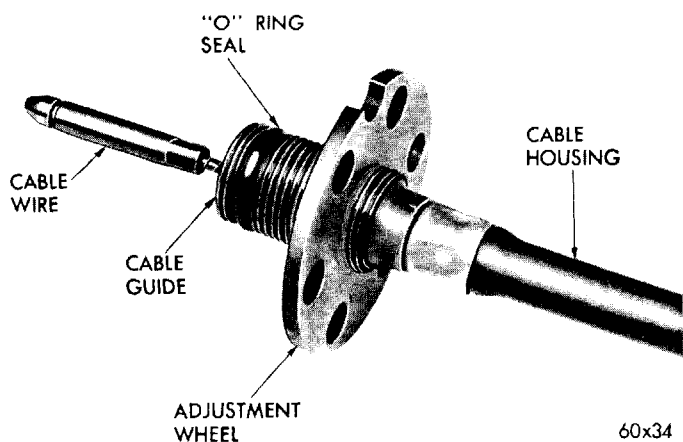

Fig. 12—Gearshift Control Cable and Adjustment Wheel
- (2) Remove control cable adjustment wheel lock screw.
- (3) Remove neutral starting switch, cupped washer and seal.
- (4) Have an assistant firmly hold the R (reverse) button until the transmission end of cable adjustment has been completed.
- (5) Back the adjustment wheel off on cable housing (counter-clockwise) until only two or three threads are showing behind the wheel on the housing (Fig. 12).
- (6) Push the control cable housing into the case with just enough force to overcome the "O" ring friction and to bottom the assembly. While holding the cable with light pressure in the bottomed position, rotate the adjusting wheel to just contact the case squarely.
- (7) Releasing the inward pressure on the cable, ro-